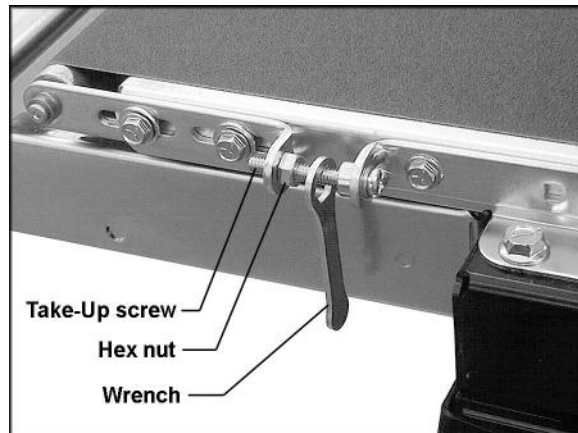

Figure 22
Belt Tension: To adjust the tension of the conveyor belt, first adjust the take-up screw nut (Figure 22) on both sides of the conveyor to obtain approximately equal tension on both sides of the belt when taut.
Belt Tracking: Adjustments to tracking are made while the conveyor belt is running. After the proper belt tension has been achieved, turn on the conveyor unit and set it at the fastest speed setting. Watch for a tendency of the conveyor belt to drift to one side of the conveyor. If there is drifting, tighten the take-up screw nut (Figure 22) on the side toward which the belt is drifting, and loosen the take-up screw nut on the opposite side. **NOTE:** Adjust the take-up screw nuts only 1/4 turn at a time. Then allow time for the belt to react to the adjustments before proceeding further. Try to avoid over-adjustments.
2. Adjust conveyor take-up screw nuts (Figure 22) to relieve belt tension.